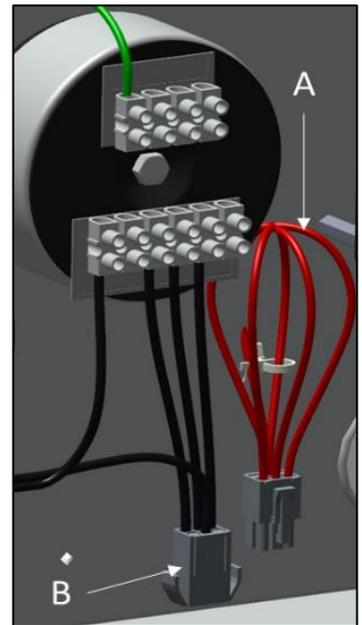

Fig. 5.1
- Connect the voltage selector (Fig. 5.1/A) onto the transformer connector (Fig. 5.1/B), in accordance with the mains supply and with the attached table (Table 1).
- Connect the voltage selector (Fig. 5.1/A) onto the transformer connector (Fig. 5.1/B), in accordance with the mains supply and with the attached table (Table 2).